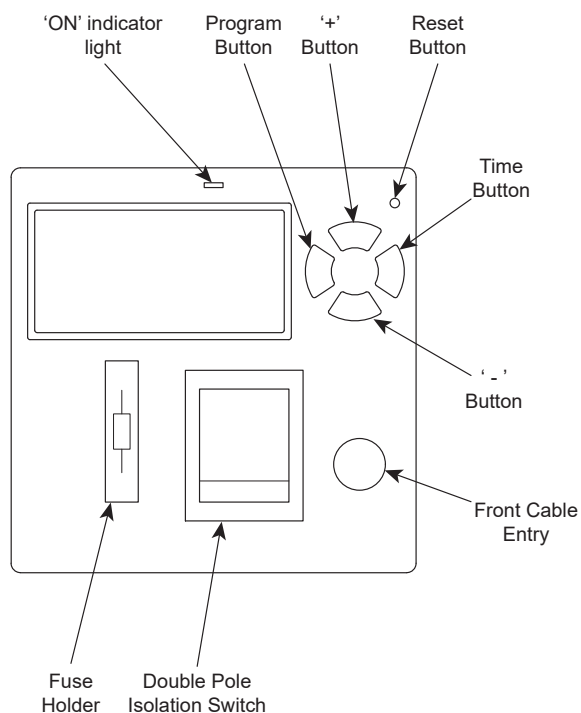
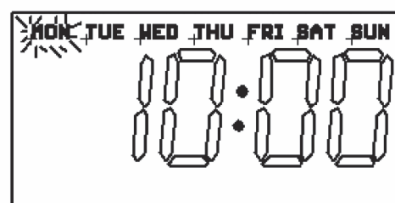
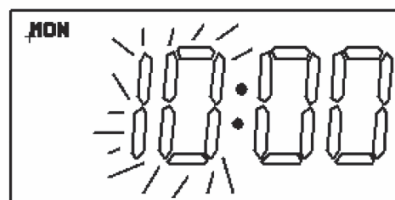
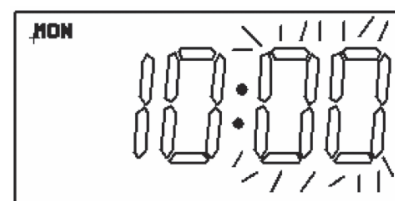

Figure B-1: Greenbrook T205-C Fused Timer Spur Switch
Figure B-3: Setting day of the week
Figure B-4: Setting time of day (hours)
Figure B-5: Setting time of day (minutes)
1. To fully reset this unit press the recessed 'Reset' button with an insulated probe (see Figure B-1).
1. Press the 'Time' button for 2 seconds. (See Figure B-1). The day of the week will start flashing (see Figure B-3).
3. Press the 'Time' button (see Figure B-1) and the hour digits will flash (see Figure B-4).
5. Press the 'Time' button (see Figure B-1) and the minutes will flash (see Figure B-5).
1. Refer to Figure B-1. Press the 'Programme' button and hold for 2 seconds. The display will represent Figure B-6 (showing 7-day type operation).